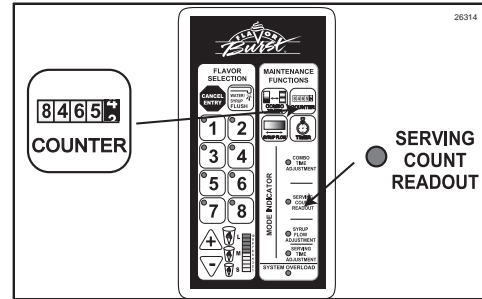

Figure 174
4. When all digits are recorded, press the COUNTER key to exit the mode. The resulting number is the number of servings the unit has dispensed since the last time the counter has been reset (example: 6,253 servings). (See Figure 174.)